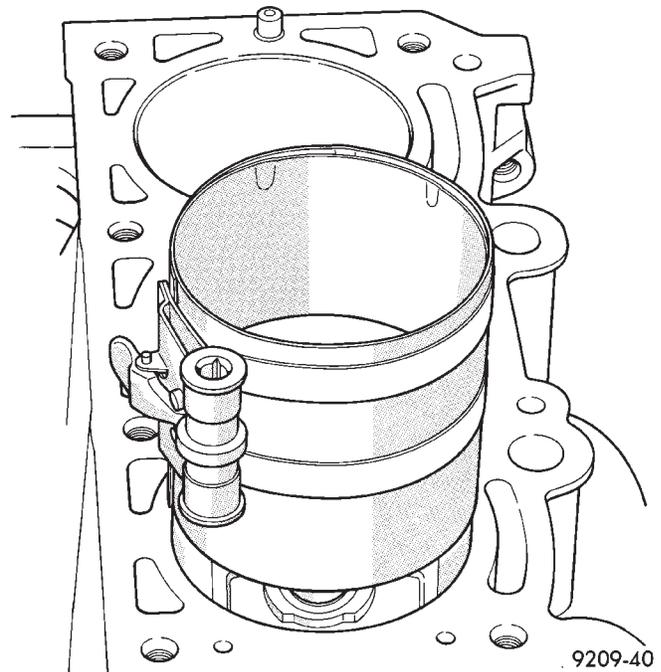

Fig. 14 Installing Piston
(1) Before installing pistons and connecting rod assemblies into the bore, be sure that compression ring gaps are staggered so that neither is in line with oil ring rail gap.
(2) Before installing the ring compressor, make sure the oil ring expander ends are butted and the rail gaps located as shown in (Fig. 14).
(3) Immerse the piston head and rings in clean engine oil, slide the ring compressor, over the piston and tighten with the special wrench. **Be sure position of rings does not change during this operation.**